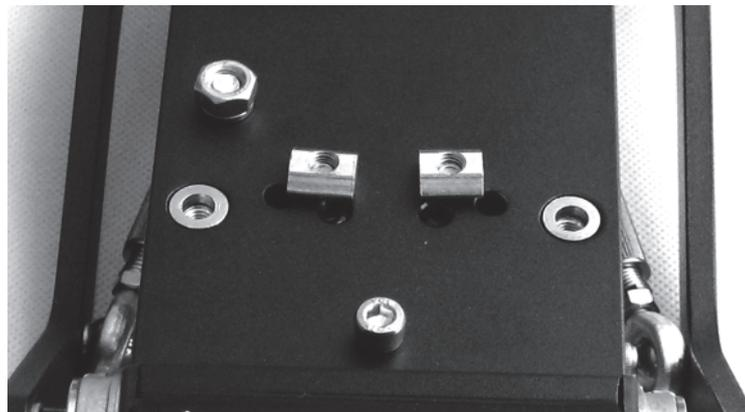

Fig. 2.7.
4.3. Engage shaped nuts on the screws from the outer side of the case (fig. 2.7)